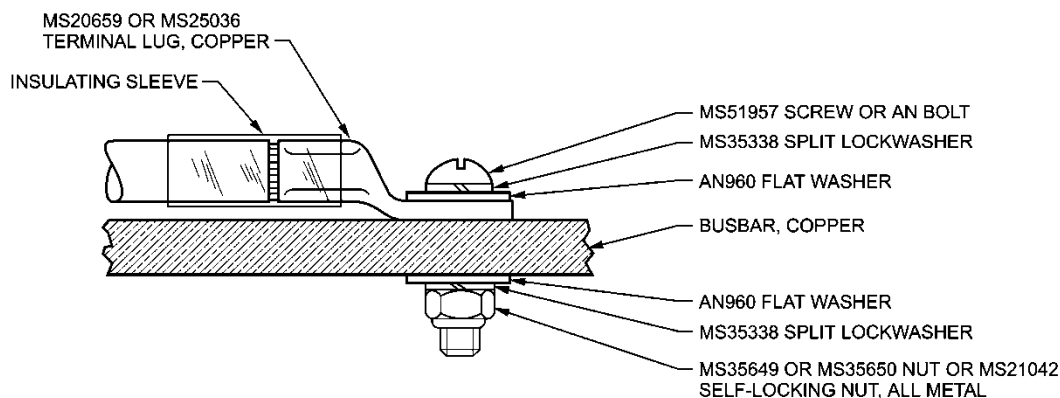

Figure 4-24 Connecting Copper Terminal to Copper Busbar
67. In order to obtain maximum efficiency in the transfer of power, the terminal lug and the busbar should be in direct contact with each other so that the current does not have to go through any of the attaching parts, even if these are good current carrying materials. As illustrated in Figure 4-21 through Figure 4-24, the above applies whether the terminal lugs and the busbar are of the same or of different materials.
69. Cadmium plated steel hardware is used to secure terminals to busbars. Use split lockwashers under hex nuts and under self-locking nuts. Use plated steel plain washers between lockwashers and copper terminals. Use flat washers (MS25440) between lockwashers and aluminium terminals. As shown in Figure 4-21 through Figure 4-24, the head of the screw or bolt can be located on the terminal side or the busbar side, as required to simplify the installation.